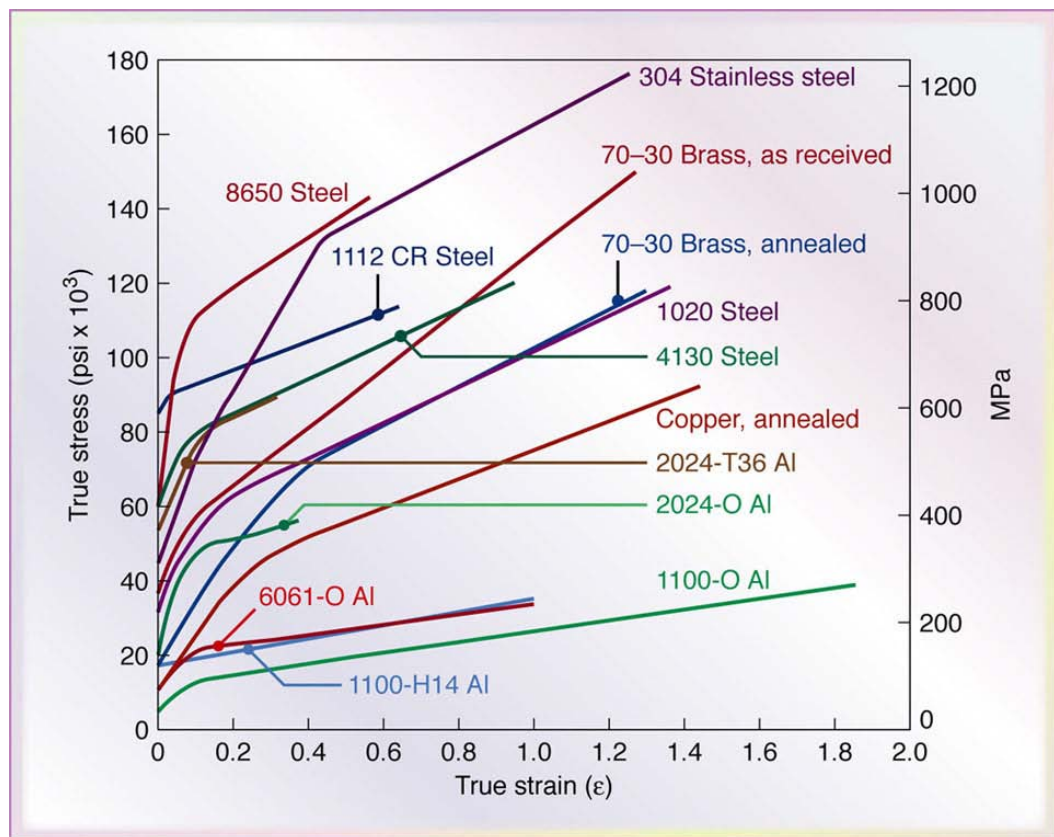

Figure Q4[b]
- [b] Calculate the forging force at the initial yielding and at the end of the stroke for a solid cylindrical workpiece made of 1020 steel. The workpiece dimension is 90 mm high and 150 mm diameter and it is to be reduced in height by 25%. The coefficient of friction is 0.15. Assuming that the workpiece is annealed, yield strength is given as 294 MPa, and true strain, ϵ is 0.36. Refer to Figure Q4[b] for suitable variables.